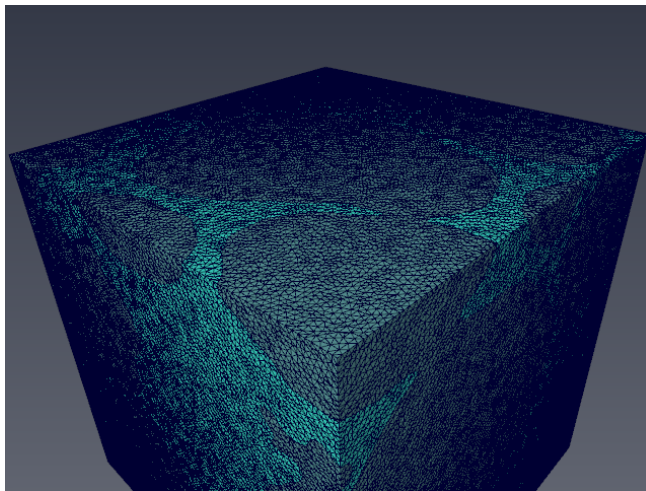

Figure 7.16: Simplified surface.
- Press *Simplify now* (see Figure 7.16).